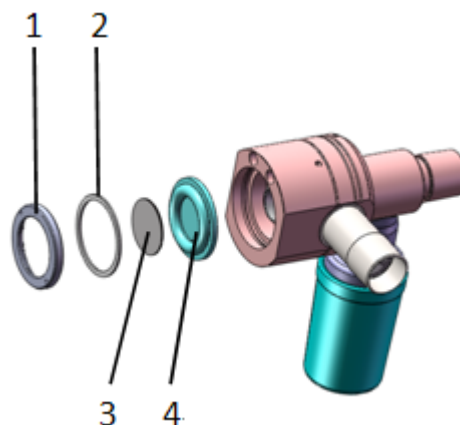

Figure 8-10
- c. Remove the safety valve cover (Part 1 in Figure 8-10) and the gasket (Part 2 in Figure 8-10);
- d. Remove the scale board (Part 3 in Figure 8-10) and the diaphragm (Part 4 in Figure 8-10);